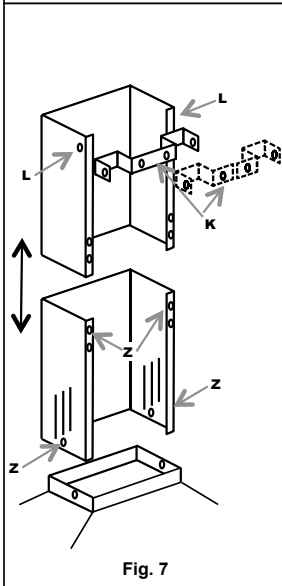

Fig. 7
- **MONTAGEM DAS CHAMINÉS (fig. 7):**